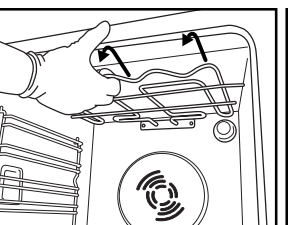
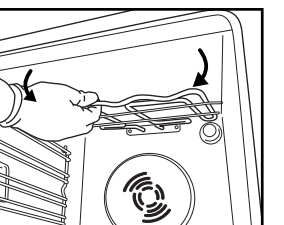

Fig. 5
Fig. 6
2. Pull the heating element out a little (Fig. 5) and lower it (Fig. 6).